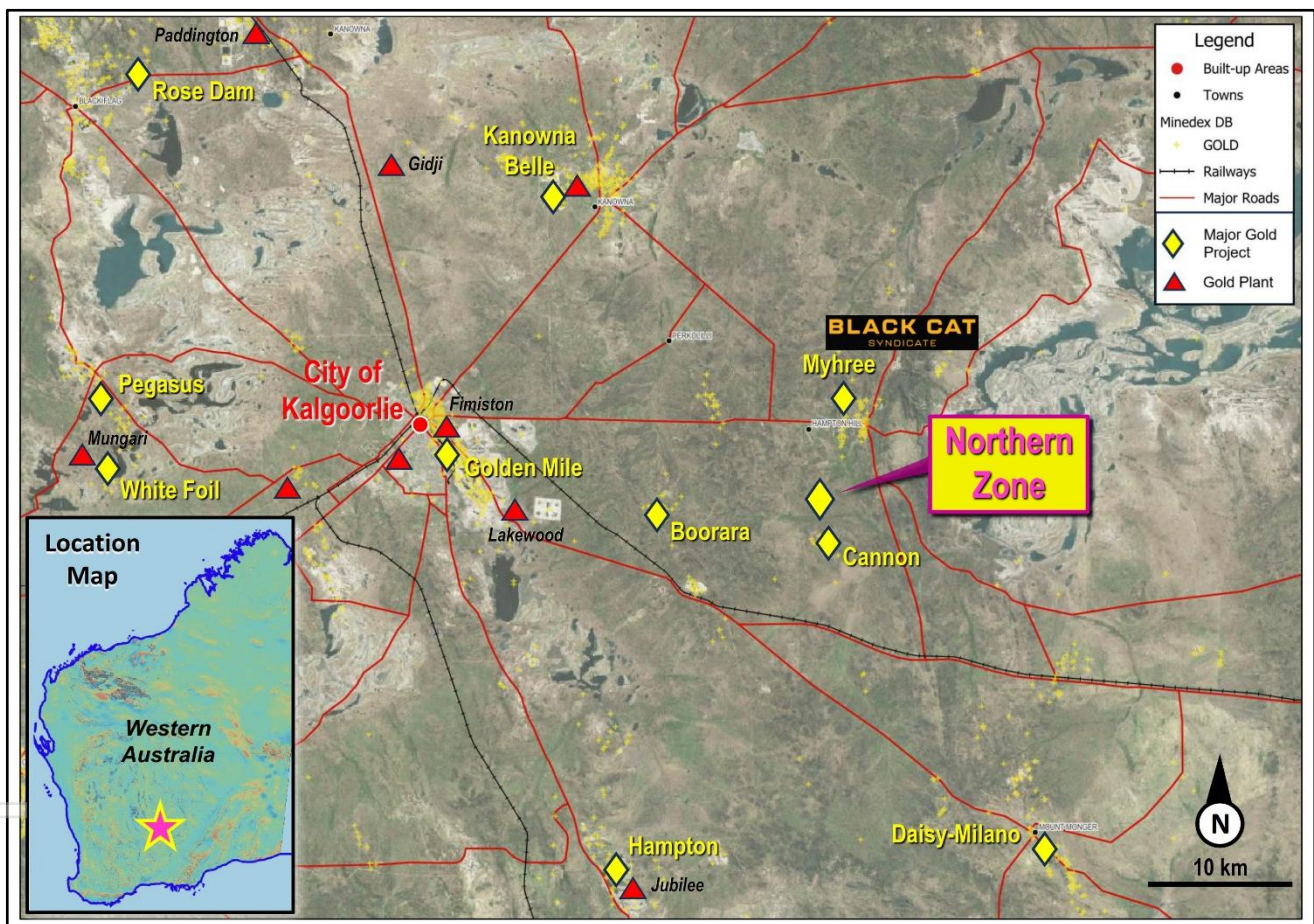

Figure 1: Northern Zone Project Map showing proximity to the Kalgoorlie "Super Pit".
**Riversgold Limited (ASX: RGL, Riversgold or the Company)** is pleased to announce that it has received further assay results from five (5) reverse circulation (RC) drill holes of an 11 hole 1,289m program recently completed at the Northern Zone Intrusive Hosted Gold Project, located 25 km east of Kalgoorlie in Western Australia (refer to **Figure 1** for location). A further 1,303 samples from a 1,805m vertical drill program have been submitted to the assay laboratory and are expected over the coming weeks. This totals 36 drill holes for 1,756 samples in at the assay laboratory.